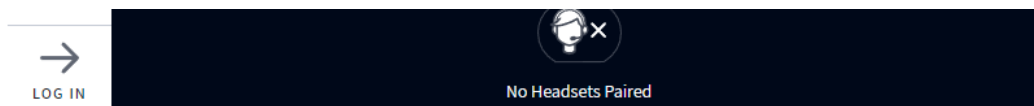
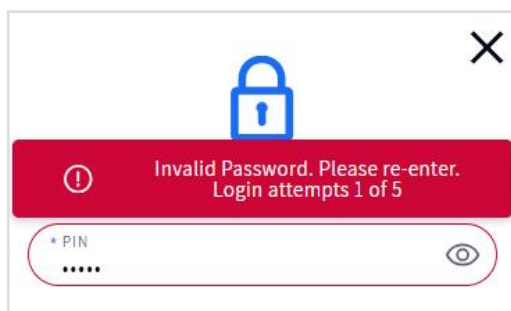

Fig. 1.26
Fig. 1.27
1. Tap LOG IN on the sidebar menu (Fig. 1.26). This opens a dialog box and prompts you for a PIN (Fig. 1.27). You are allowed five password attempts before being locked out for five minutes. The red prompt above the PIN field indicates an invalid password and number of attempts.